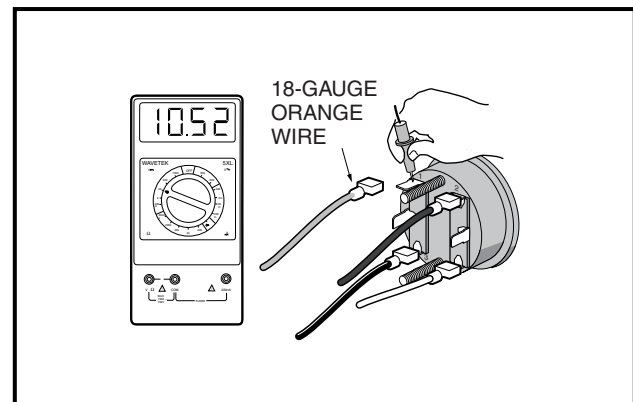

Figure 11-55 Fuel Gauge Voltage Test
10. The orange wire should remain disconnected for this step. With the black probe still on the (3) terminal of the fuel gauge/hour meter, place the red (+) probe of the multimeter on the (1) terminal of the fuel gauge/hour meter. The voltage reading should be the same as the full battery voltage reading obtained in step 6. If the reading is incorrect, replace fuel gauge/hour meter (**Figure 11-55, Page 11-44**).